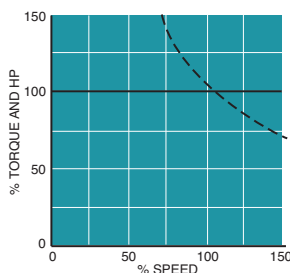

Figure 21. Constant
2. Constant Horsepower (Figure 21)